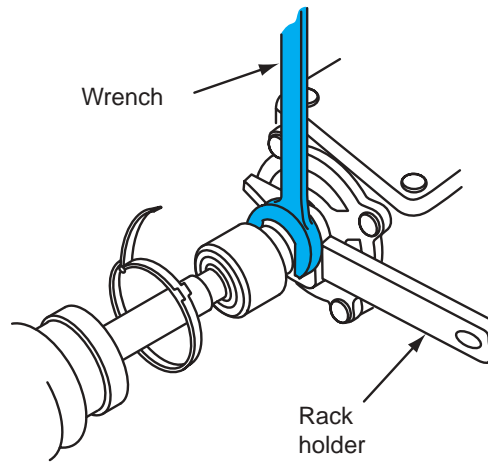

Figure 13-12 Removing the tie rod from the shaft screw.
7. Hold the shaft screw with the holding tool and loosen the tie rod with a wrench (Figure 13-12).